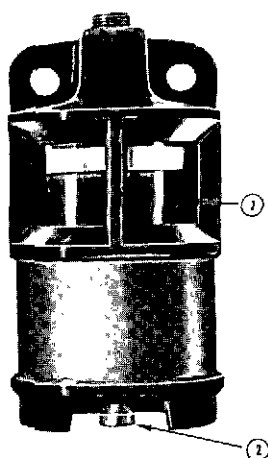

Fig. 2-12 (CGS20) Air inlet restriction gauge
A mechanical restriction gauge is available to indicate excessive air restriction through a dry-type air cleaner. This gauge can be mounted in air cleaner outlet or on vehicle instrument panel. The restriction indicator signals when to change cartridges. The red flag (1, Fig. 2-12) in window gradually rises as cartridge loads with dirt. Do not change cartridge until flag reaches top and locks in position. After changing cartridge, reset indicator by pushing reset button (2).